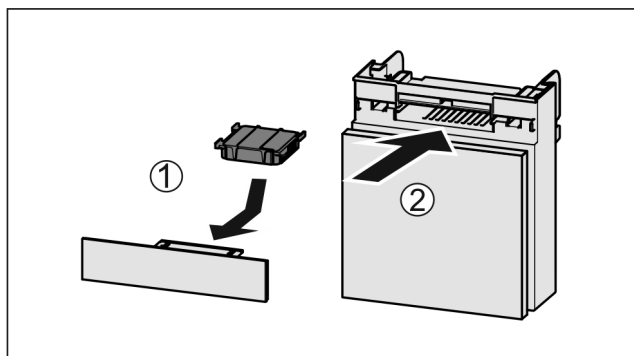

Fig. 42
- ▶ Insert the carbon filter as shown in the diagram Fig. 42 (1).
- ▶ Push the compartment in Fig. 42 (2).